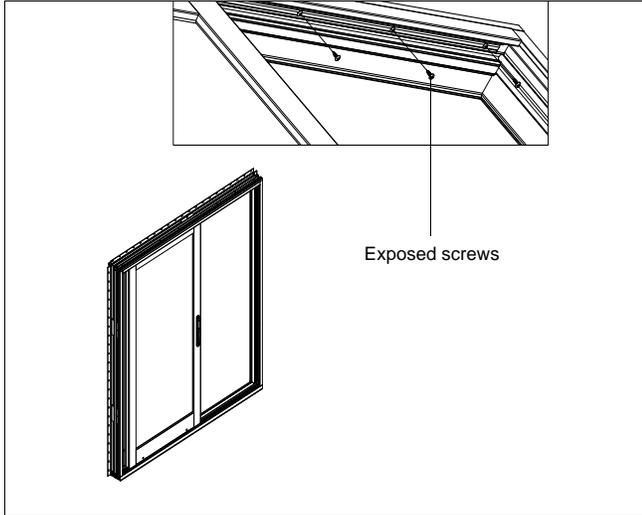

Figure 11
11. Unlock and open the panel. Lower the panel completely. Remove the exposed screws fastening the panel guide to the head jamb. See figure 11.